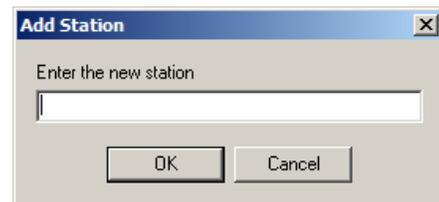

Figure 21
- Enter the Station name (Hall A, First Floor, Pine BLVD, etc.), **Figure 21**. Generally stations are created for specific areas of the facility, common areas and repeater supervision.